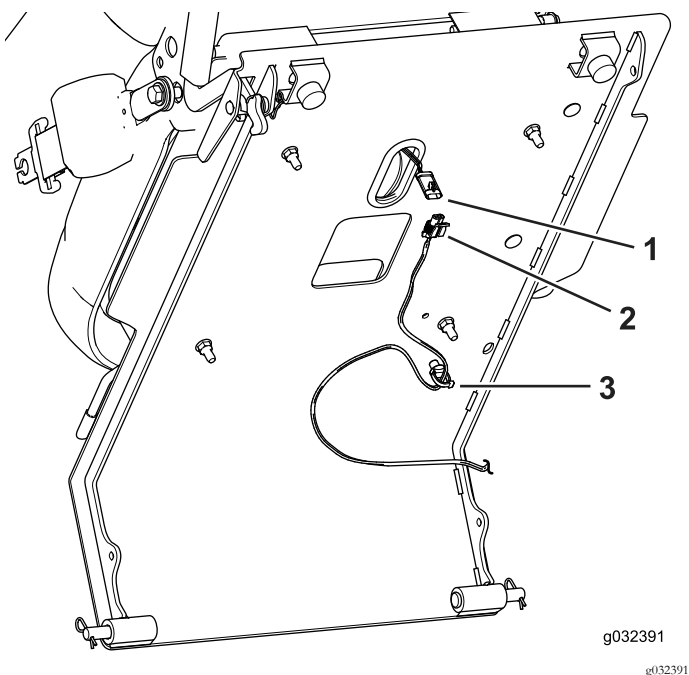

Figure 2
2. Disconnect the seat-switch on the bottom of the seat deck from the wire harness (Figure 2).
3. Remove the wire clip from the bottom of the seat deck (Figure 2).